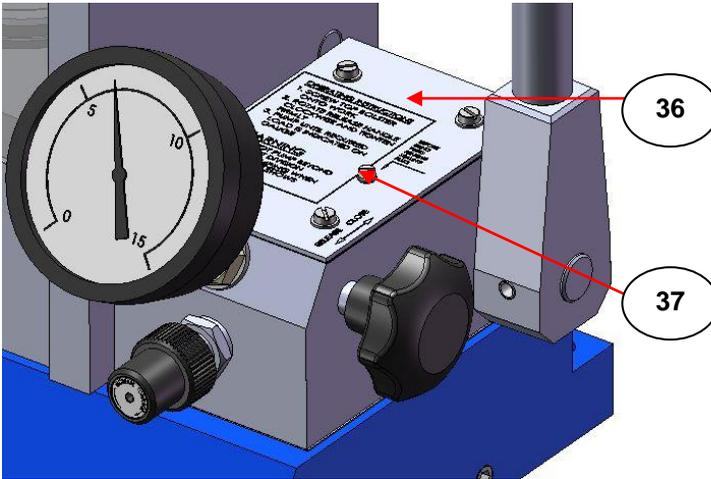

Fig 3. Nylon Vent Screw (Transportation Screw) to Remove
The press is supplied filled with hydraulic oil and is ready to use. The only preparation required before operation is to remove the nylon vent screw (37) from the pump plate (36) of the pump block assembly. (Please refer to Fig 3. on page 8.)